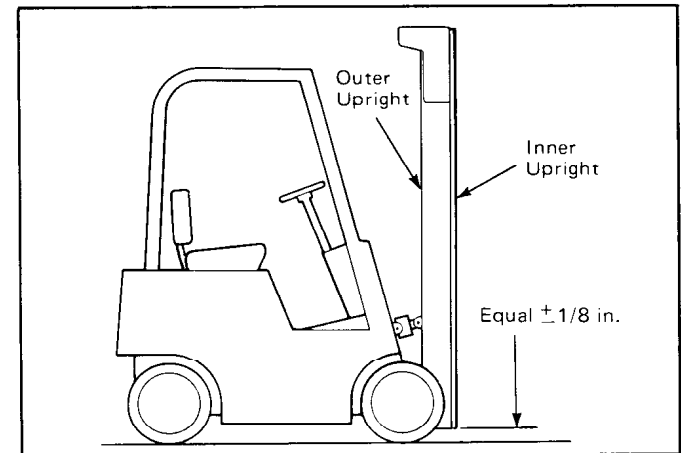

Figure 7. Upright Adjustment.
2. Adjust one chain to achieve the correct upright position when fully lowered, as shown in Figure 7.